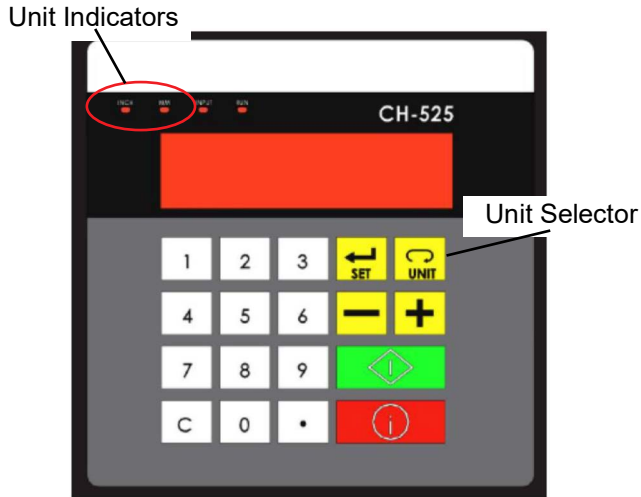

FIG. 4-4
2. Verify correct selection with indicator light at top of control unit. See FIG. 4-4